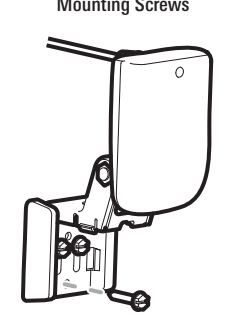

Figure 21
9. Re-position the transducer assembly against the transom of the boat, then hand-install all three screws. Make sure that the transducer location and the pivot angle have not changed, then fully tighten all three mounting screws (Figure 21). **Hand-tighten only!** Snap the pivot back down. If you have performed the preceding procedures correctly, the transducer should be level and at the right height for optimal operation.
3. Re-position the transducer assembly against the transom of the boat, then hand install the first three screws (two on the outside edges and one in the 3rd mounting hole). Make sure that the transducer location and the pivot angle have not changed, then fully tighten all three mounting screws (Figure 21). **Hand-tighten only!**